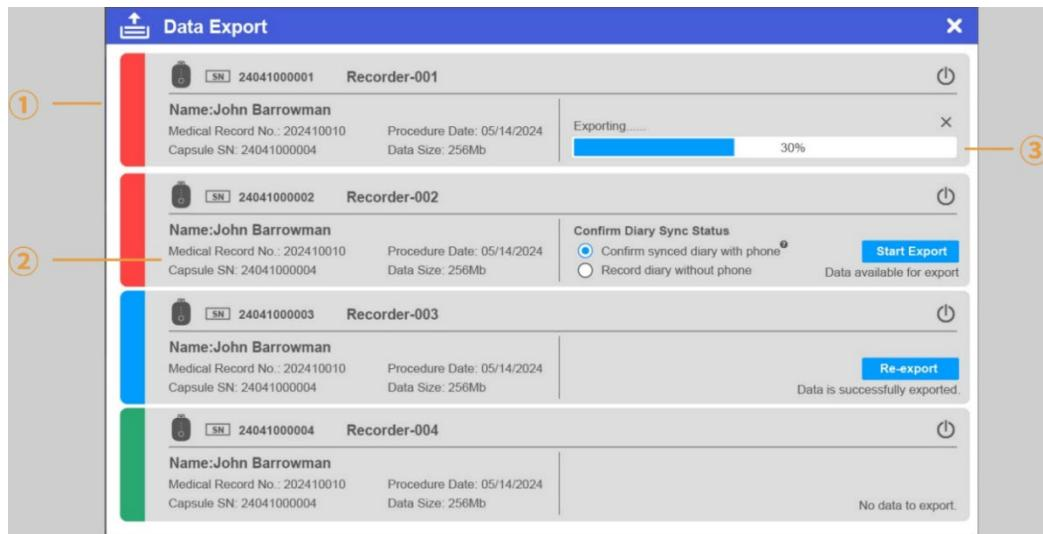

Figure 4-10 MotiliScan Data Export Tab
- 3) Open MotiliScan and click [Data Export] on the home page to open the tab (as shown in Figure 4-10).